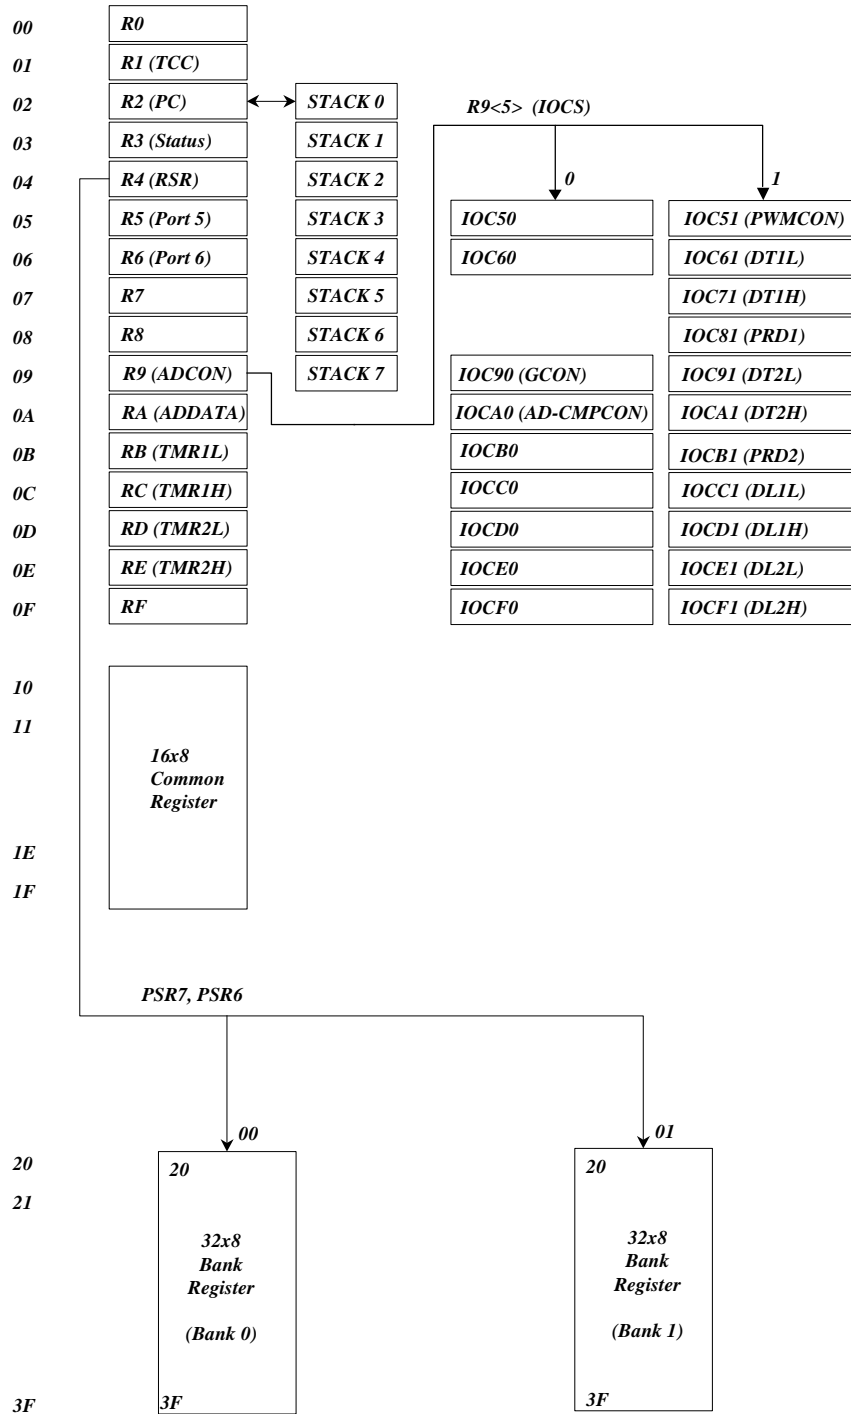

Fig. 4 Data Memory Configuration
- R2 and hardware stacks are 12-bit wide. The structure is depicted in Fig. 4.
See the configuration of the data memory in Fig. 4.